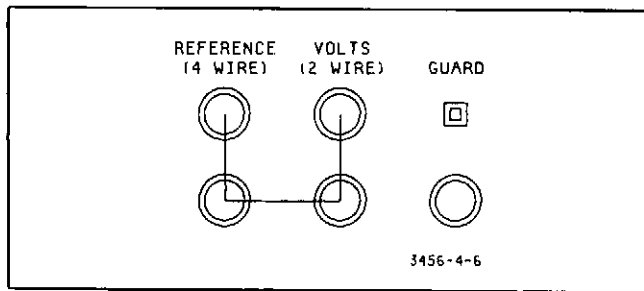

Figure 4-6. 4-Wire Ohms Short.
a. Press the 3456A's RESET button. Short across the VOLTS (2WR, 4WR) and RATIO REF (4 WR SENSE) terminals as shown in Figure 4-6.